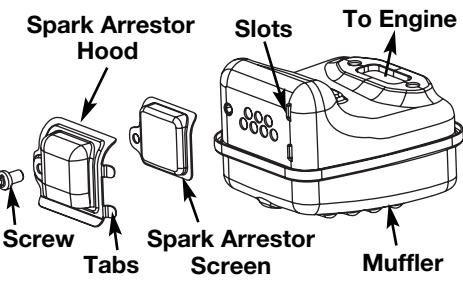

Fig. 22
2. Locate the muffler, **but do not remove it**. Find the screw on the bottom of the muffler (Fig. 22). This screw holds the Spark Arrestor Hood Assembly and the spark arrestor screen to the bottom of the muffler. Remove this screw using either a Torx T20 or flat blade screwdriver.
6. Place the spark arrestor plate on top of the spark arrestor screen with the raised side up and the opening facing toward the engine (Fig. 22).
7. Place the spark arrestor hood on top of the spark arrestor plate with the "raised" side up and the opening facing AWAY from the engine (Fig. 22). Verify that the exhaust will be directed AWAY from the engine.